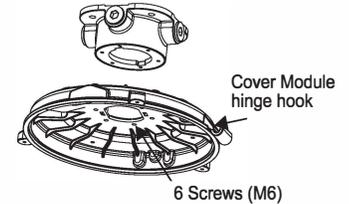

Figure 2
- Attach the cover module A to the mounting module. (18lb-in. 6 point Screw M) - (See Figure 2)
- Attach the cover module A to the mounting module.(18lb-in. 6 point Screw M6) - (See Figure 2)